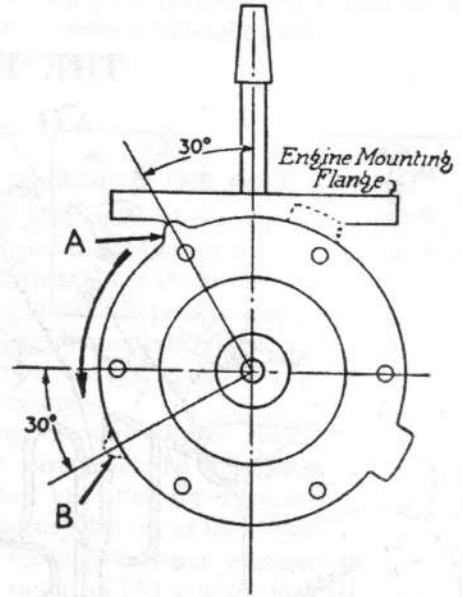

Fig. D.6
When installing the diaphragm and pull-rod assembly the locating 'tab' on the periphery of the diaphragm should be at the 11 o'clock position as shown at (A) in Fig. D.6. After pressing the diaphragm downwards, at the same time turning it through 90° to the left (which will allow the pull-rod to engage the fork in the link), the 'tab' should be at the 8 o'clock position (B) (Fig. D.6), with the holes in the diaphragm matching up with the holes on the pump body flange.